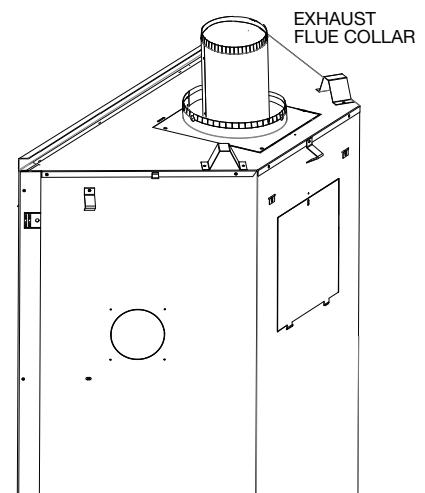

Fig. 3
- G. From inside the firebox, install the 4" (101.6mm) exhaust collar with gasket up through the top of the firebox, and secure with the the 4 hex head 3/4" black screws supplied in the manual baggie (**Fig. 3**).